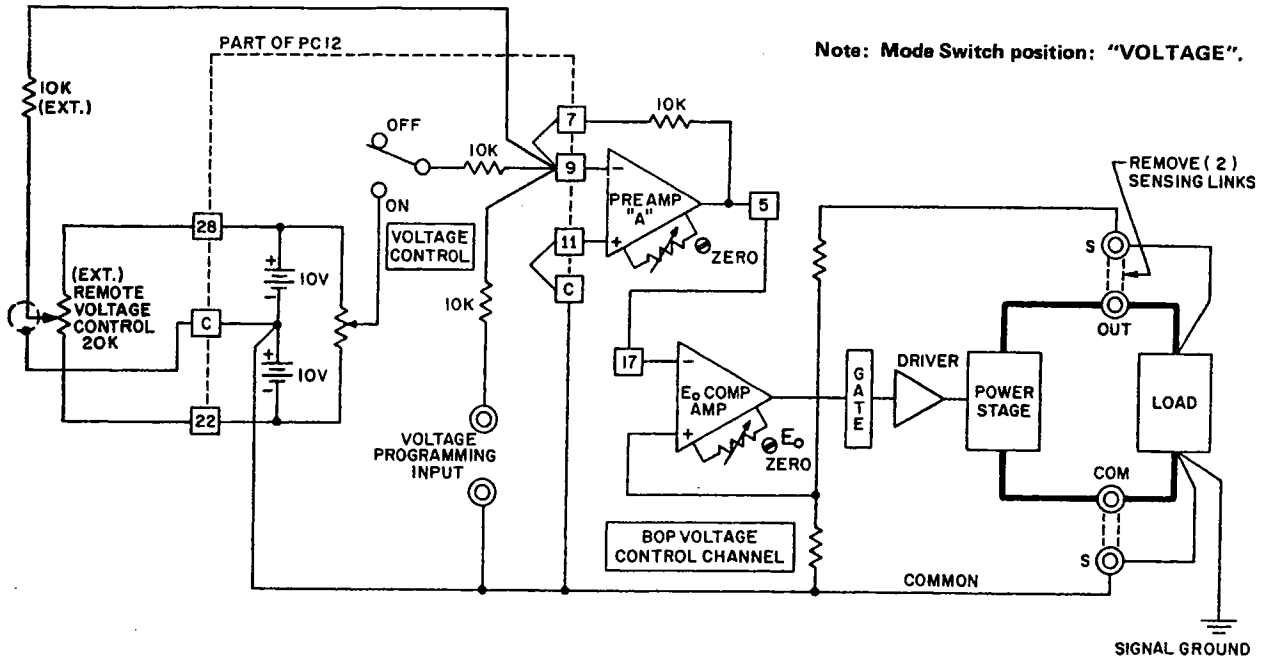

FIG. 3-4 REMOTE POTENTIOMETER CONTROL OF THE BOP D-C OUTPUT VOLTAGE
**3-11 REMOTE D-C OUTPUT VOLTAGE CONTROL BY RESISTANCE.** As seen in FIG. 3-4, and as described in a previous paragraph (Paragraph 3-6) the BOP d-c output potential can be controlled within its specified range by means of the VOLTAGE CONTROL, with the VOLTAGE CONTROL SWITCH in the ON position. PREAMP "A" with the built-in feedback and input resistors, has a gain of one and the fixed gain of all BOP models is designed so that a d-c input signal of zero to  $(\pm)10$  volt will control the BOP output through its specified range. In the local (front panel) control mode, the d-c control potential is applied via the VOLTAGE CONTROL. In the remote control mode, a similar control circuit, located external to the BOP is substituted for the internal control elements.
3-12 As shown in FIG. 3-4, this control method can readily be performed remotely, by setting the VOLTAGE CONTROL SWITCH to the OFF position and connecting an external REMOTE VOLTAGE CONTROL as indicated in FIG. 3-4.